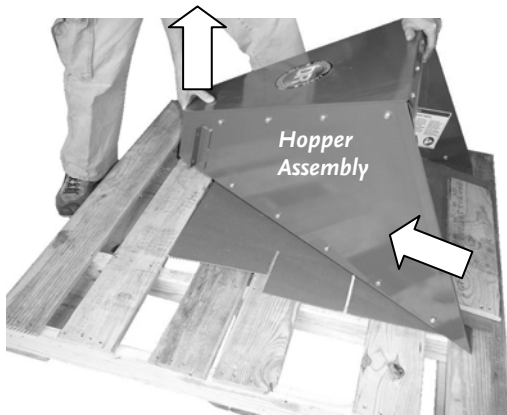

Figure 8
7. Pull up and then out on the small end of the Hopper Assembly to remove it from the Pallet (**Figure 8**).